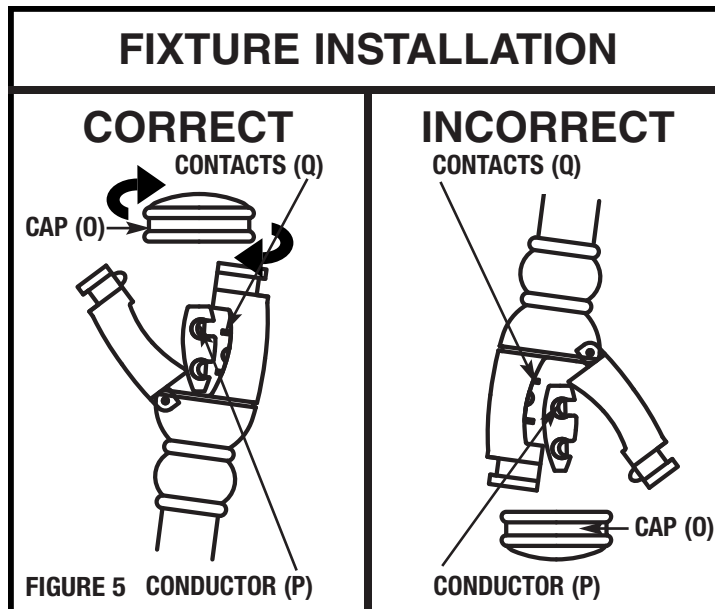

FIGURE 5
ATTACH PENDANT TO RAIL (Fig. 5)
1. Unthread cap (O) from rail adapter (H) .
2. Making sure contacts (Q) will align with conductors (P) on rail, set the bottom of the rail adapter (H) to the bottom of the rail and "roll" the adapter (H) up onto the rail.
3. Install fixture to rail by closing hinged side of rail adapter (H) over rail (see fig. 5) and threading cap (O) tightly onto rail adapter (H) .